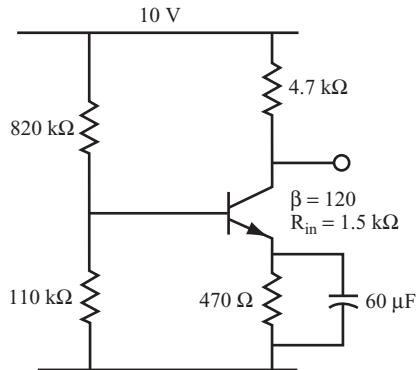

FIGURE 8.29
- 30** For the circuit shown in Figure 8.29, follow the steps given in problems 28 and 29 to answer the following questions.